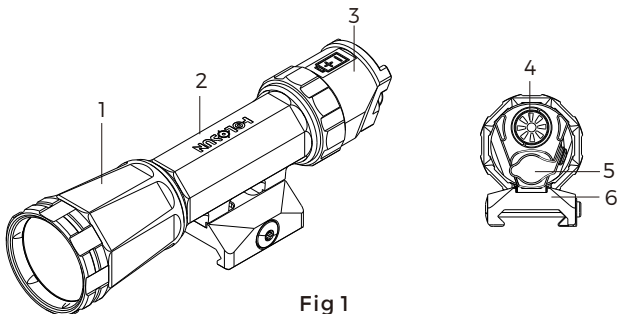
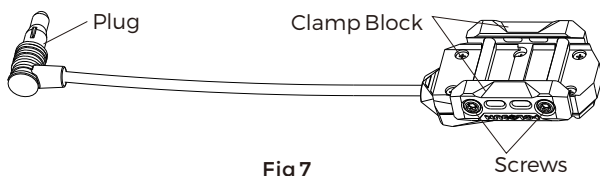

Fig 1
Fig 7
- Remove the rubber cover (fig 1) and insert the plug of the remote cable switch into the port. Then attach the button to your preferred Picatinny rail location, away from the muzzle. (See Fig 7)